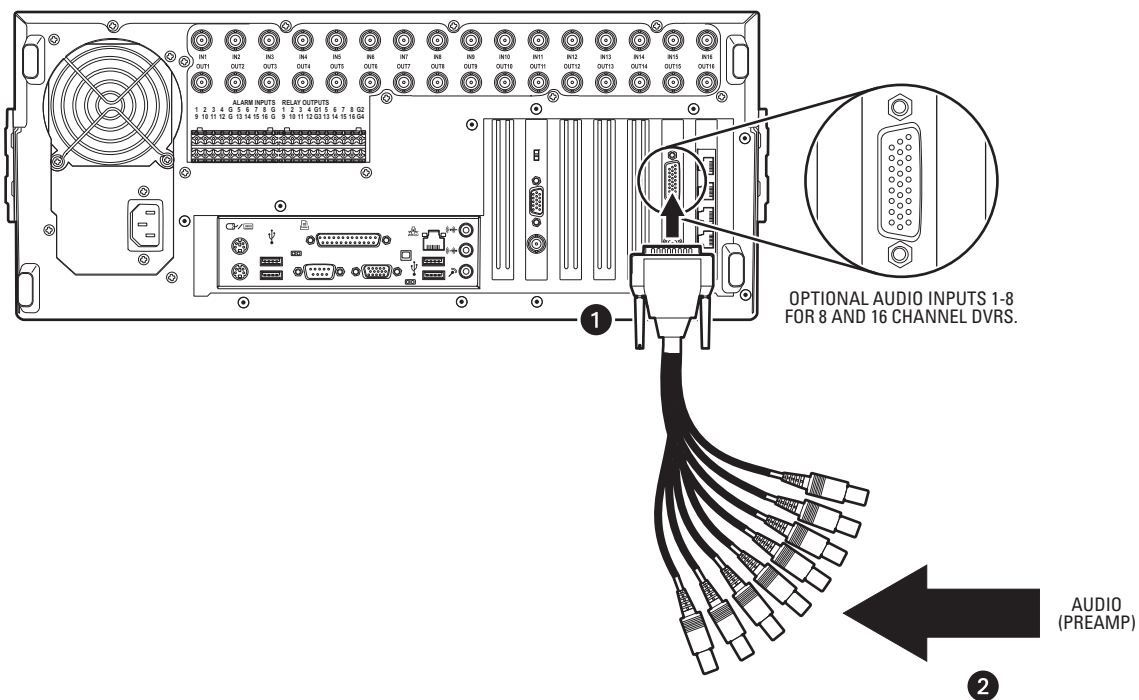

Figure 59. Audio Connector Installation
1. Connect the 26-pin audio breakout connector to the 26-pin Sub-D socket on the capture card to provide 8 or 16 individual audio inputs. Refer to Figure 59.